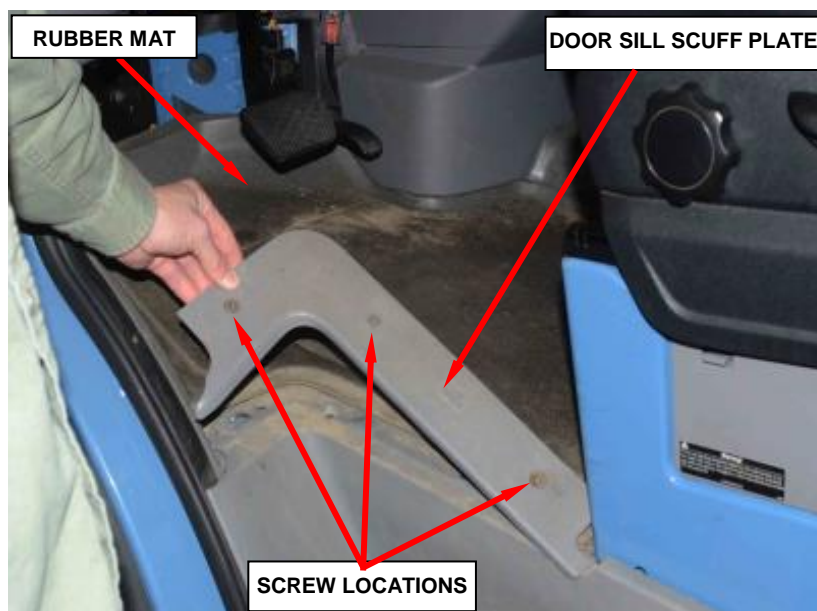

Figure 183 – Door Sill Scuff Plate
- a. Remove and save the three screws from the door sill scuff plate and remove the door sill scuff plate (Figure 183).
- b. Remove the rubber mat (Figure 183).